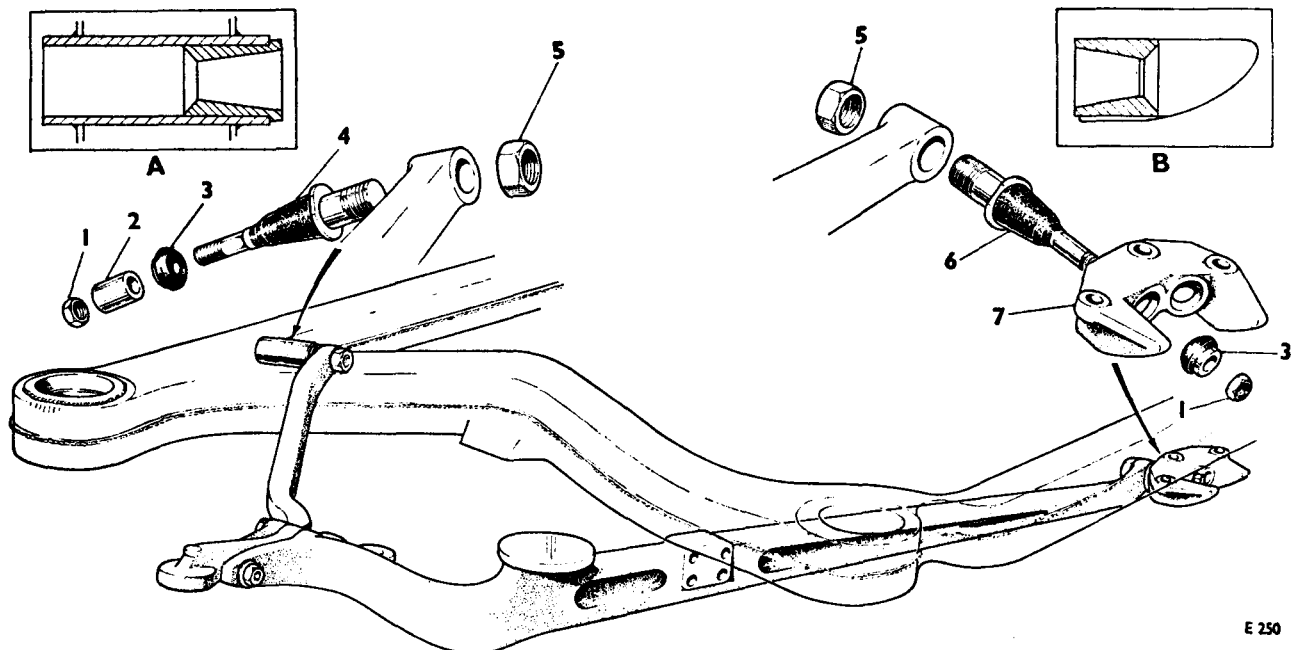

FIG. H12 LOWER TRIANGLE LEVERS MOUNTING POINTS
7. Remove the triangle lever. Remove the front triangle lever as described in Operation 6 (see Fig. H12).